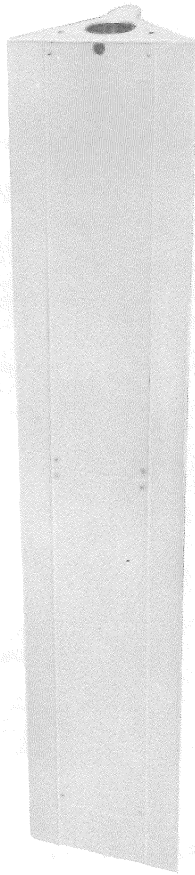

Fig. 3—KS-19425, List 25 Lower Backboard Plate and Cover Assembly
2.14 When underground or ground level wire entrance is desired, use KS-19425, List 25 lower backboard plate and cover assembly (Fig. 3). Order separately.